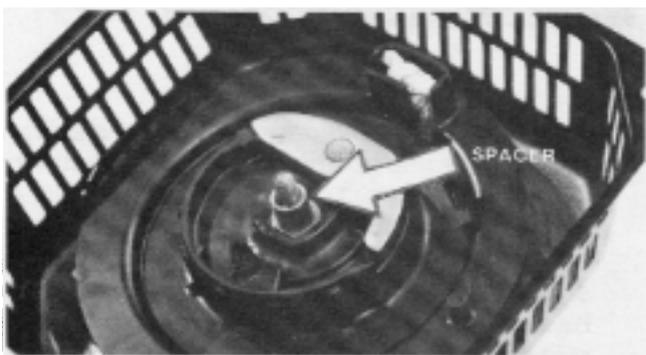

Figure 3-33
- Remove the shaft spacer. See. Fig. 3-33.